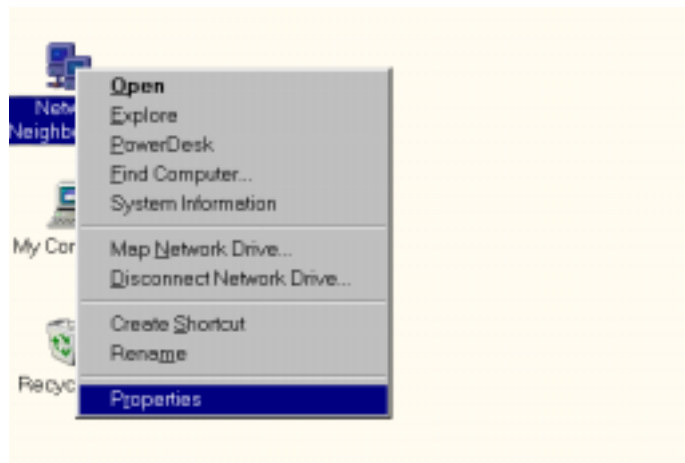

Figure 14-2 Windows Main Menu
2. Right-click on *Network Neighborhood* icon and click on *Properties* (see Figure 14-2).